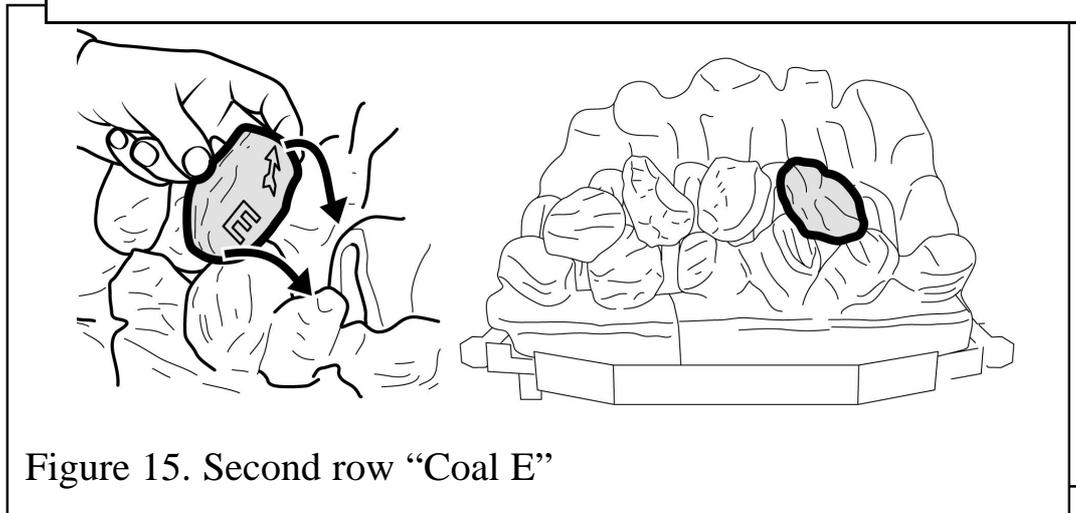

Figure 15. Second row "Coal E"
9. Hold coal 'E' upright with the arrow pointing to the top. Locate coal 'E' as shown in figure 15.